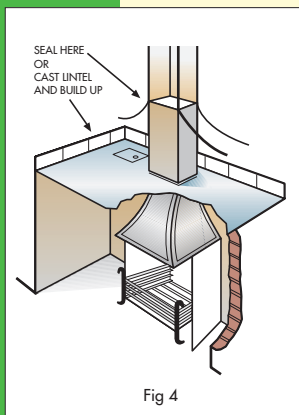

Fig 4
**REMEDY** Altering the size of the flue is usually an expensive option, it is often impracticable to reduce the fireplace opening. All that can be done with an inset fire is to consider replacing it with a closed roomheater. If you wish to retain a dog-grate or similar fire in a recess in a period setting, smoking back can often be overcome by fixing a metal register plate across the underside of the top of the recess, and a metal canopy over the fire with its constricted end projecting through the register plate as high as possible to connect if possible to the flue gather see Fig.4.